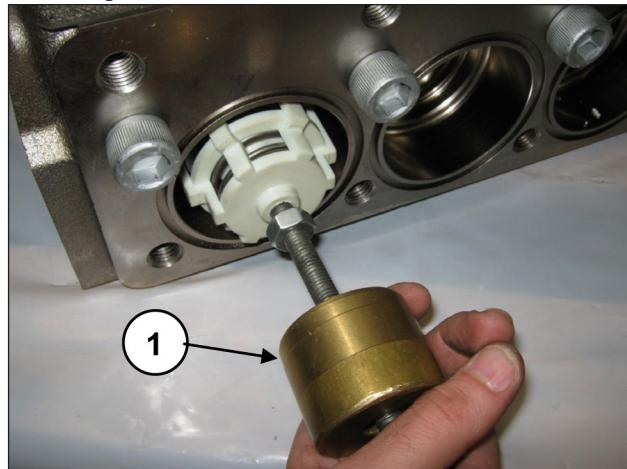

Fig. 140
Extract the suction valve unit with the use of an extractor hammer (code 27516400) to be applied on the M10 hole of the valve guide (pos. ①, Fig. 140) or, in addition, an M10-M16 adapter (code 25089700) to be attached to the M16 thread of the valve guide.